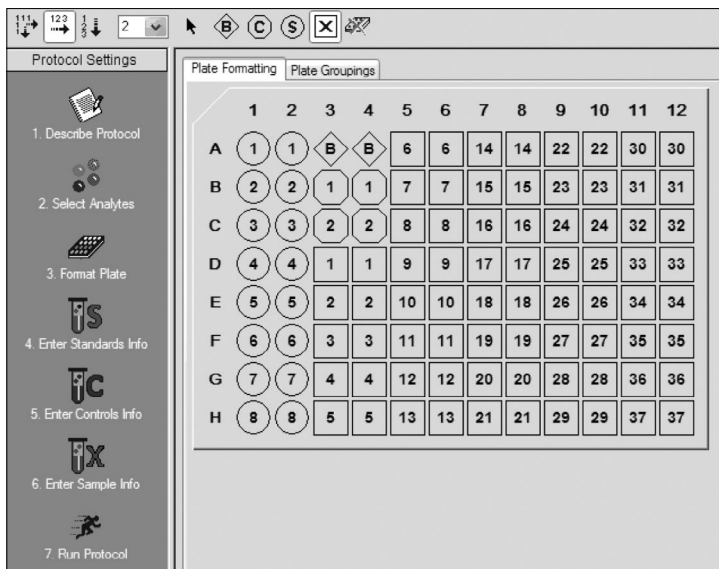

Fig. 6. Plate formatting.
3. Click **Format Plate** and format the plate according to the plate layout created in Section 1 (Plan Plate Layout). To modify the plate layout, follow the steps below (see Figure 6).